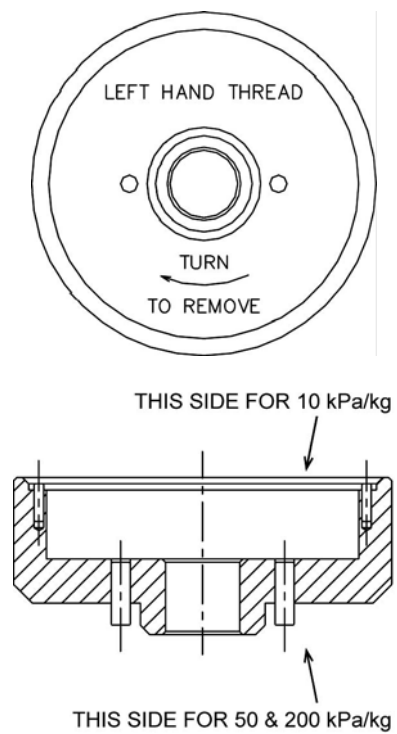

Figure 55. 10 kPa/kg gas piston-cylinder module sleeve nut tool
- ❶ Place the piston-cylinder module upside down on a clean stable surface (piston cap (2) down).
- ❷ Using the sleeve nut tool (see Figure 55), remove the sleeve nut (9). The sleeve nut tool is a spanner that fits into the two holes on the sleeve nut.